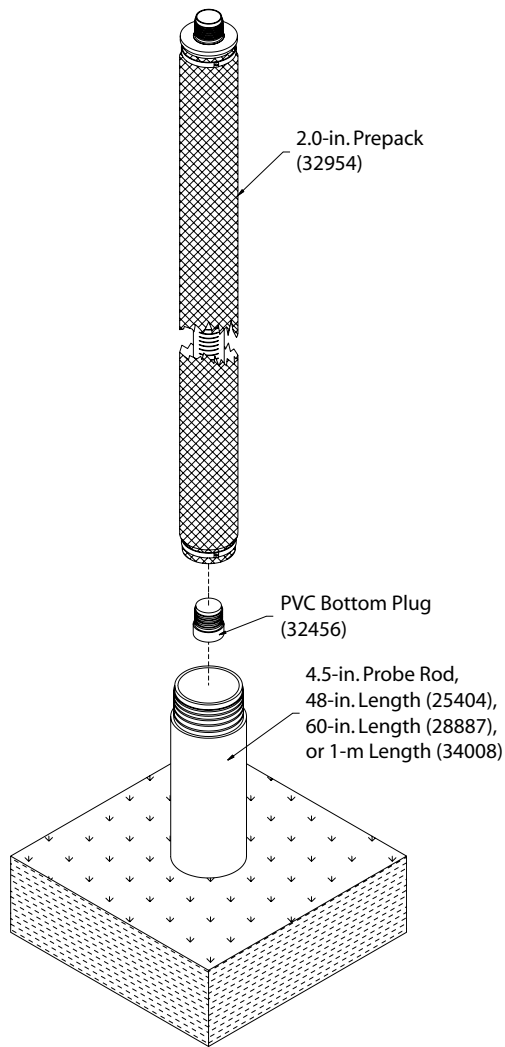
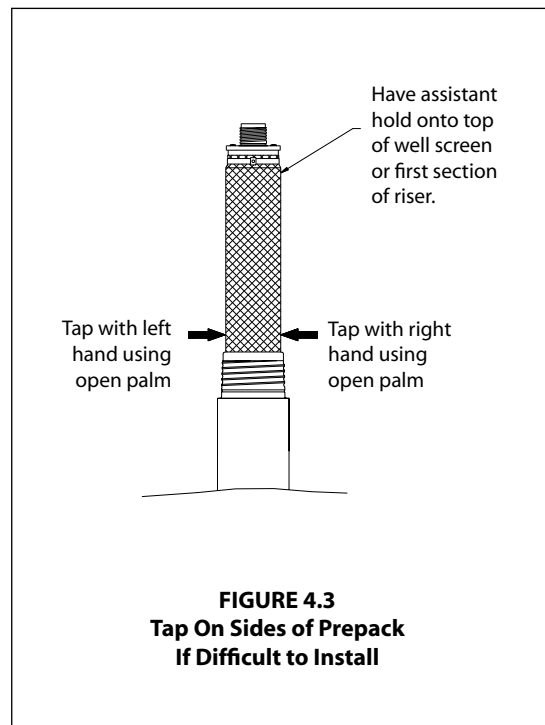

FIGURE 4.2
FIGURE 4.3
2. Thread a PVC Bottom Plug into a 2.0-inch prepack (Fig. 4.2).
3. Leading with the bottom plug, insert the prepacked screen assembly into the probe rod string as shown in Figure 4.2. If the prepack does not slide easily into the rods, do not force it. With the lower end of the prepack in the probe rod, tap the screen simultaneously with both hands using a clapping motion (Fig. 4.3). With this technique, the screen will drop by gravity into the probe rods. Have an assistant hold onto the top portion of the screen to prevent the screen from unexpectedly falling downhole.